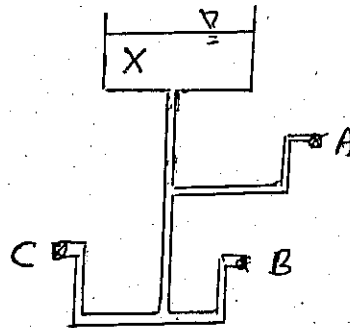

Figure 5
5) Water is supplied from Tank X to three taps, A, B and C, as shown in Figure 5. Tap A is on the first floor while Taps B and C are on the ground floor.
b) A house has three taps supplied from an overhead tank as shown in Figure 5. It is found that there is no discharge from Tap A when all three taps are fully opened. Explain how this can happen.